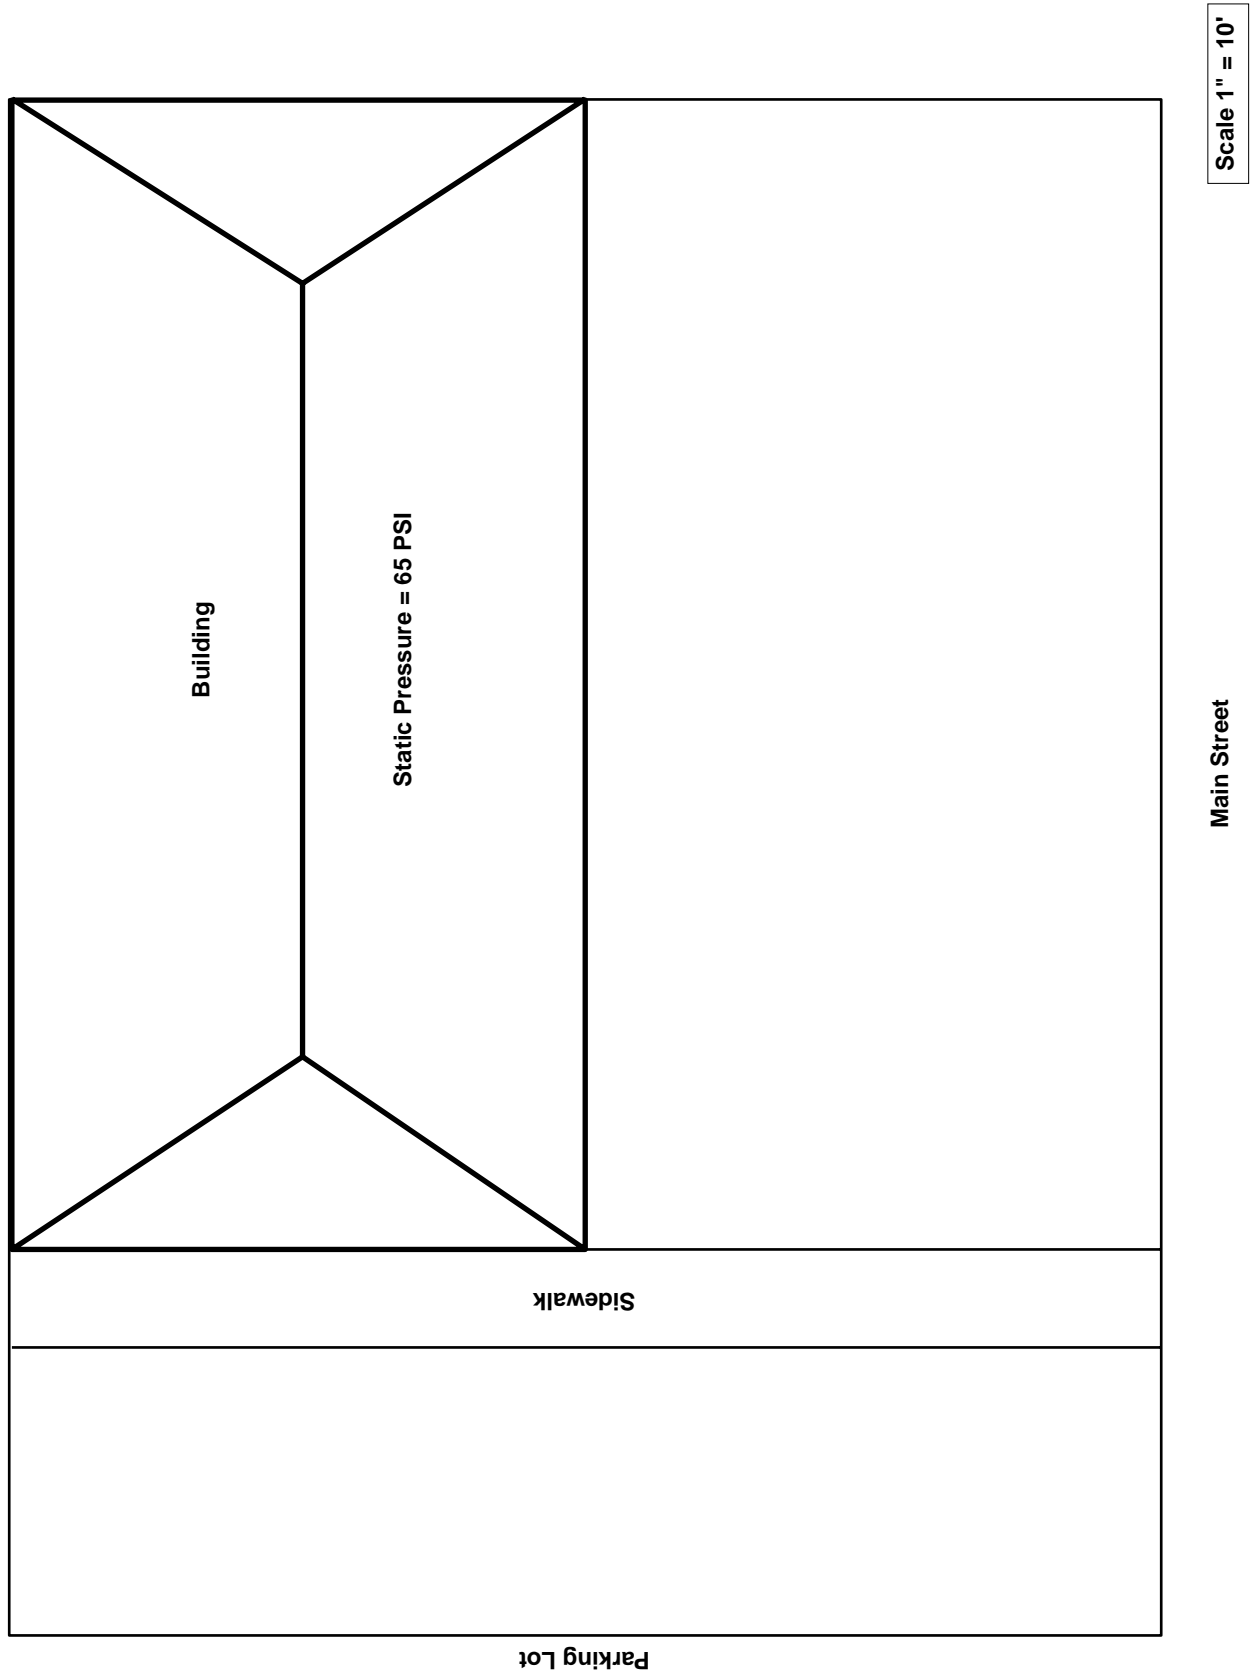

FIGURE 3.5
5. Use Toro sprinklers to lay out the site in Figure 3.5 on the next page.